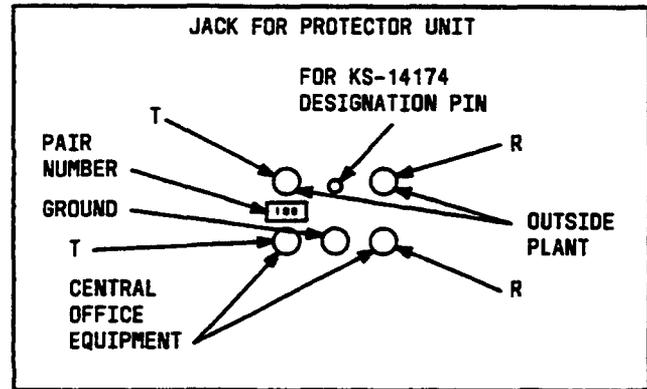

Figure 19—Jack For Protector Unit on 302- and 308-Type Connectors
**Note:** The jacks (receptacles) for the protector units in the 303-, 305-, 307-, 309-, 310-, 310M-, and 311 connectors have reversed tip and ring orientation from the 302- and 308-type connectors (see Figures 19 and 20).